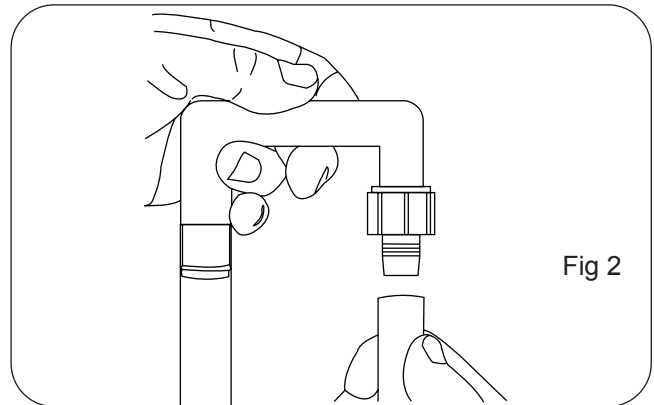

Fig 2
17. Pull the hose from the inlet side of the filter up next to the inlet U pipe and line up. Fig 2